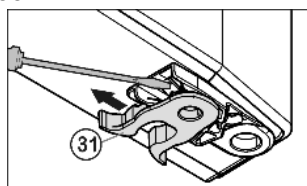

Fig. 10
- Transfer the spring clamp *Fig. 10 (31)*: Depress the latch nose and pull the spring clamp off over it.